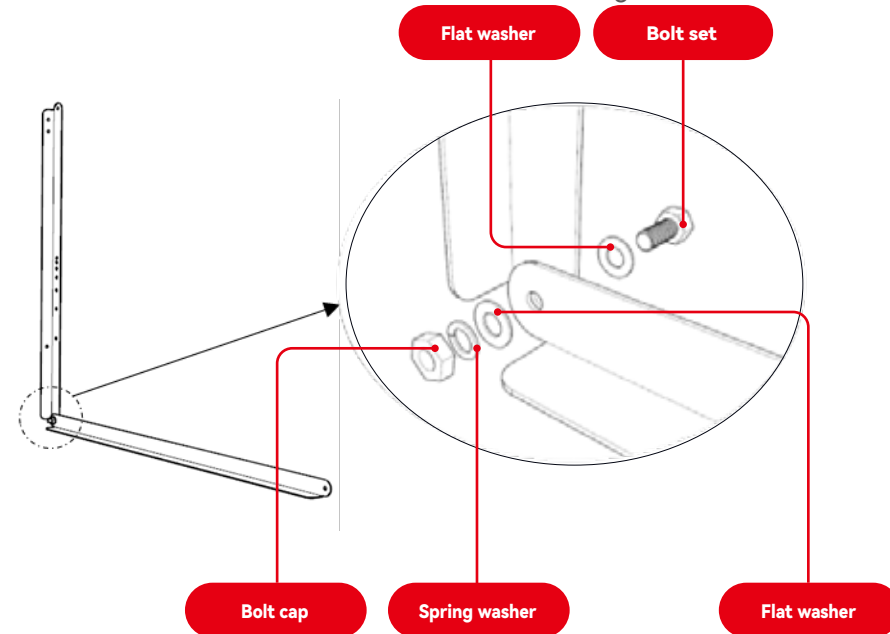

FIGURE 1
- Installation of the angle adjustment bracket: Use M8*25 stainless steel hex bolts to connect the vertical bracket and the horizontal bracket (as shown in Figure 1)